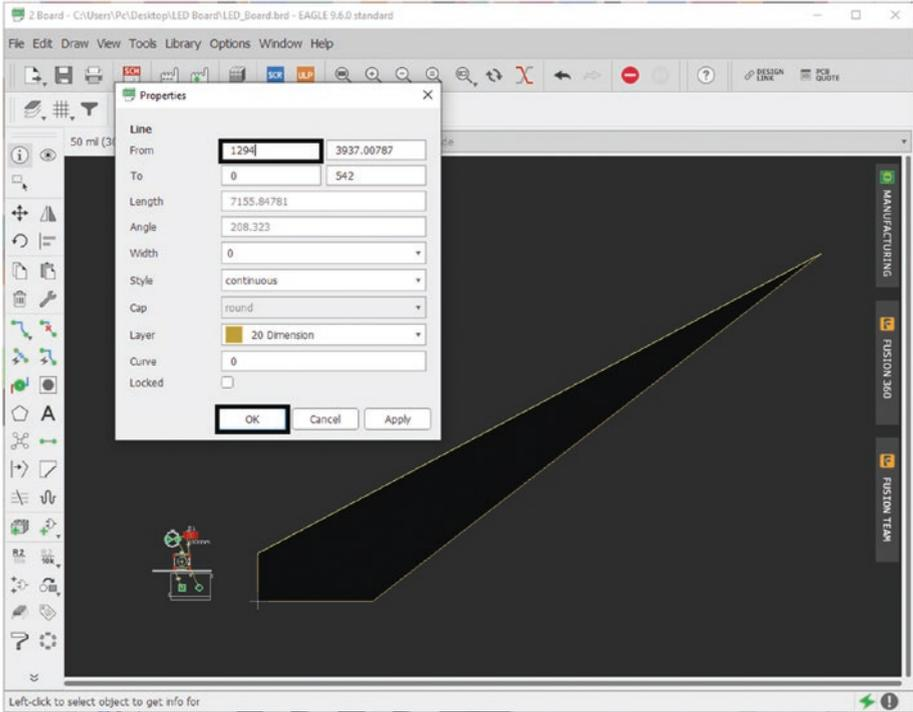

Figure 5-60. Update top horizontal line value
9. Type 1294 into the box right next to “From” and click “OK.” See Figure 5-60.